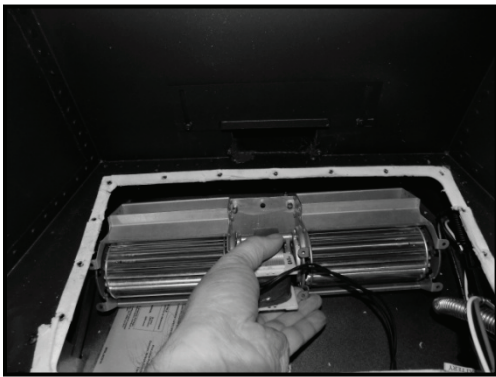

Figure 54
8. The fan is located inside the opening and toward the rear of the firebox. A 3/8" nut holds the fan assembly onto a threaded post. Remove the nut and gently extract the fan assembly from the fire box (Fig. 54) Be careful not to accidentally catch any other wires while the fan is being extracted.